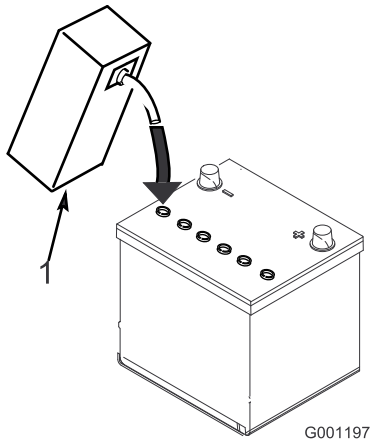

Figure 22
2. Carefully fill each cell with electrolyte until the plates are covered with about 1/4 inch (6 mm) of fluid (Figure 22).
3. Allow approximately 20 to 30 minutes for the electrolyte to soak into the plates. Refill as necessary to bring the electrolyte to within about 1/4 inch (6 mm) of the bottom of the fill well (Figure 22).